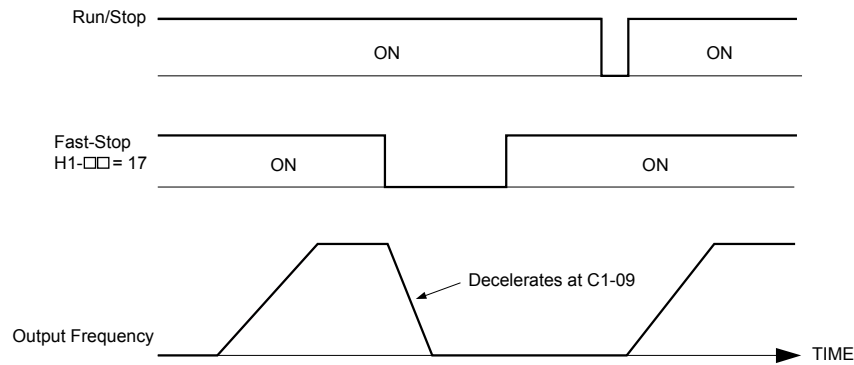

Figure 5.50 Fast-stop Sequence
**Figure 5.50** shows an operation example of Fast-stop.